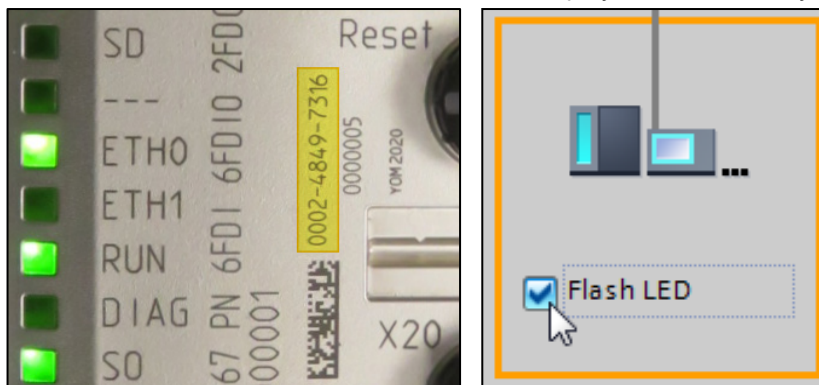

Figure 37: TIA – Assign device name » MAC / Function »Flash LED« (Part 2, Identification)
- ▶ The PDP67 device, that is to be named, can be uniquely identified by MAC address and IP address. The "Devices MAC address" is lasered on the front of the fieldbus device to the left of the reset push-button (see left picture in Figure 37).